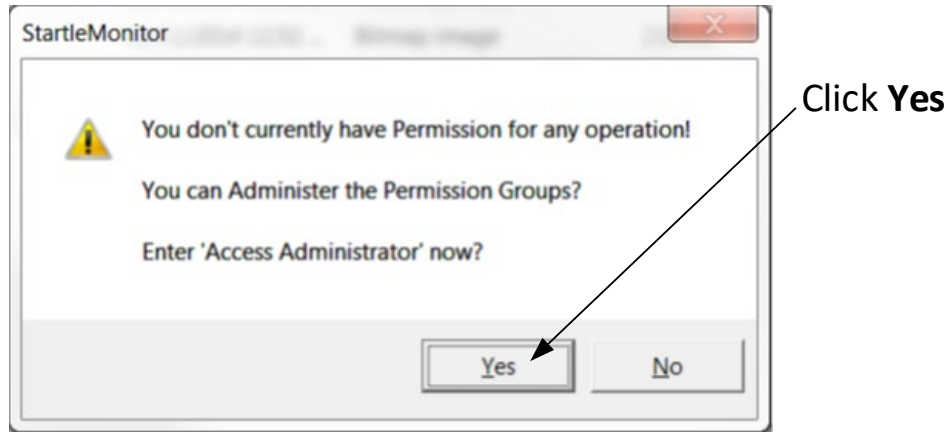

Figure 18 Access Administrator Window
4. If you are not a GLP facility, or if a GLP facility after entering the License Key, the following screen (Figure 18) will appear: